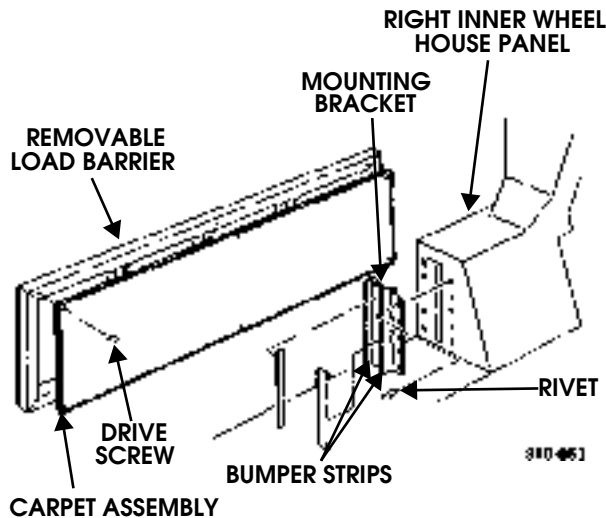

Figure 10-35: Removable Load Barrier Location
1. Remove drive screws and carpet assembly from front and back of removable load barrier (Figure 10-35).
1. Secure mounting bracket to left inner wheel house panel with rivets (Figure 10-35).